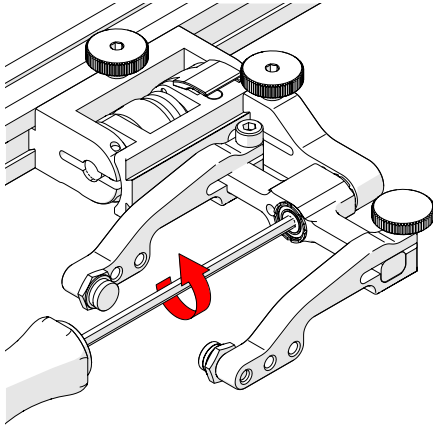

Fig. 70 - Unscrew yoke pivot screw
1. Unscrew the yoke from the swing arm (Fig. 70).